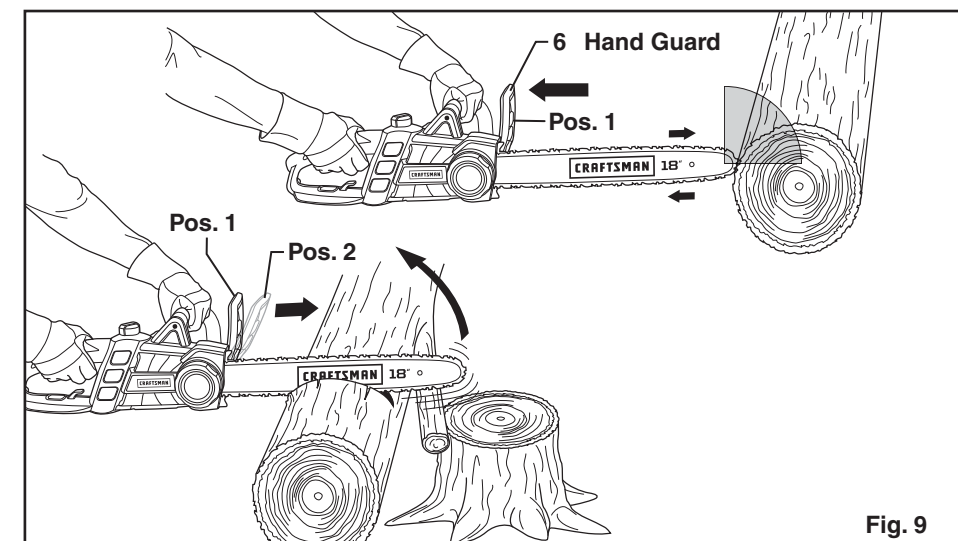

Fig. 9
1. **MANUAL CHAIN BRAKE (See Fig. 9):** PUSH front hand guard (6) forward (position 2) and try starting the chain saw. **The chain must not start.** To deactivate the kickback brake, pull hand guard (6) backwards (position 1), and release On/Off (trigger) switch (2), (See Fig. 8 for On/Off switch location).